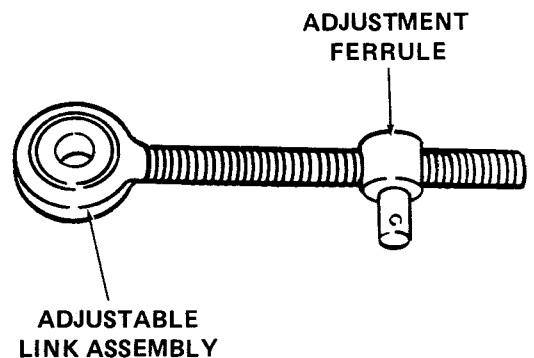

Figure A-19
- a. Thread a hex center lock nut (J) onto hitch chain hook.
- b. Insert hitch chain hook into hole provided in draft bar assembly and secure with lock washer (I) and hex center lock nut (J).
8. Install adjustable link assembly (6) as follows:
- a. Thread adjustment ferrule (Q) onto adjustable link assembly. Refer to Figure A-19.